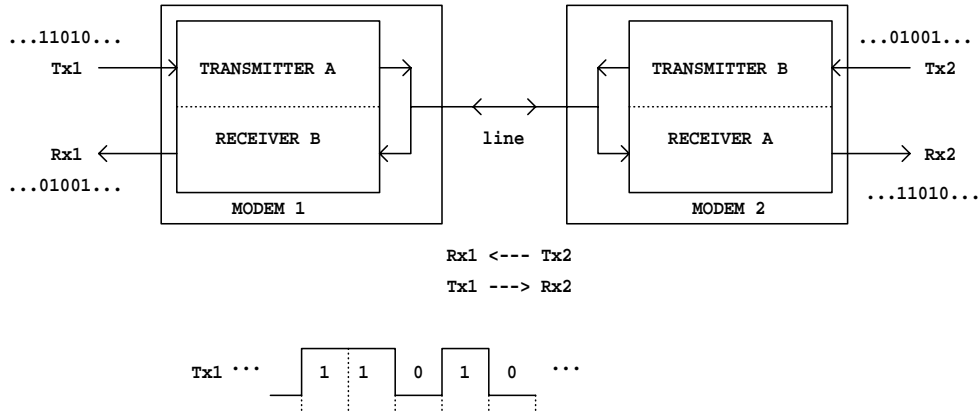

Figure 1: A block diagram of the system with two FSK modems.
A block diagram of the system is shown in Fig. 1. The system consists of two modem units (1 and 2) linked through a single line. At first, the link in the lab will simply be a pair of wires – one for the signal, and one for the common ground. The most common example for an actual link between the modems would be through telephone lines. The actual signal path through the telephone line is much more complicated than the simple pair of wires in the lab, but the modem operating principles are nevertheless the same. Other real-world links may include RF or optical. After you finish the system design using the ideal pair-of-wires link, you can experiment with a simple free-space optical link.
Each modem has a transmitter and a receiver. The transmitter takes serial binary data T_x from a data source (typically from a computer serial port). The data is a sequence of logic 1's and 0's, as shown in Fig. 1. In the lab, for test purposes, we can generate the data from a lab pulse generator. Each bit of data, 1 or 0, lasts for Δt seconds. The data transmission speed $B_r = 1/\Delta t$, is called the baud rate in bits per seconds (bps). If the transmitted signal is periodic, such as it would be if obtained from a simple pulse generator, the maximum fundamental frequency f_s of the signal is obtained for the periodic sequence $\dots 010101\dots$,
Frequency-shift keying is a type of frequency modulation in which the frequency of the FM signal on the line is varied between two fixed levels, f_H and f_L . In the modems of Fig. 1, the binary T_x signal determines the frequency of the line signal. Logic 1 corresponds to f_H , and logic 0 corresponds to f_L . The FSK signal on the line is a waveform with frequency equal to f_H or f_L depending on the binary input T_x . The purpose of the frequency modulation is two-fold: first, it shifts the spectrum of the transmitted signal to a range within the passband of the link between the modems. For a standard telephone line, the passband is approximately between 300Hz and 4kHz, and so f_H and f_L are selected to be in this range. The second purpose of the frequency modulation is to allow data to be transmitted in both directions through the same line at the same time. This is accomplished by assigning one pair of frequencies (f_{HA} , f_{LA}) for the data transmitted
from modem 1 to modem 2, and another pair (f_{HB} , f_{LB}) for the data transmitted in the opposite direction, from modem 2 to modem 1. Because of this assignment, each of the two signals uses about one half of the full bandwidth of the line, and the two signals can be transmitted, separated and demodulated independently. In communication theory, this technique is known as *frequency-division multiplexing*. The simultaneous data transmission in both directions over the same line is called *full duplex*. In Fig. 1, we can identify two communication channels: channel A, which corresponds to data transmission from modem 1 to modem 2, and channel B for data transmission in the opposite direction.
As shown in Fig. 1, each of the two modems (1 and 2) has a transmitter and a receiver. Ideally, if there are no errors, the R_{x2} sequence is the same as the T_{x1} sequence and R_{x1} is the same as T_{x2} .
Your task is to design one complete modem (just one, not both modems in Fig. 1) according to the following design specifications:
The main task in the laboratory is to design and test the basic system as shown in Fig. 1.
1. Design and demonstrate operation of the channel A: you should build and test the transmitter in the modem 1 and the receiver in the modem 2 of Fig. 1. Channel A should operate according to the design specifications. The data source T_x can be a square-wave signal coming from a pulse generator. In this part, point 1 of the receiver is tied to the ground (test).
Draw a complete labeled circuit diagram with all component values selected for the channel A of the system shown in Fig. 1: the transmitter A in the modem 1, and the receiver A in the modem 2. As given in Section 2, channel A operates with $f_{LA} = 9.5kHz$, $f_{HA} = 10.5kHz$. Assume that the data is transmitted from modem 1 to modem 2 only.